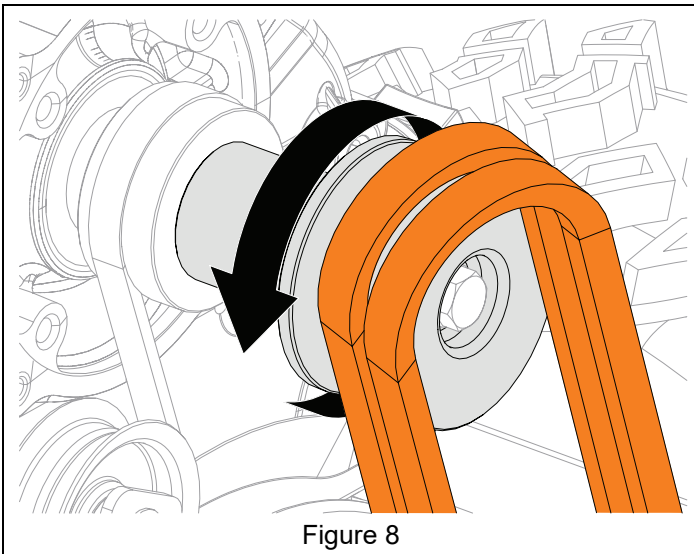

Figure 8
11. Remove attachment drive belts from attachment sheave. See Figure 8.